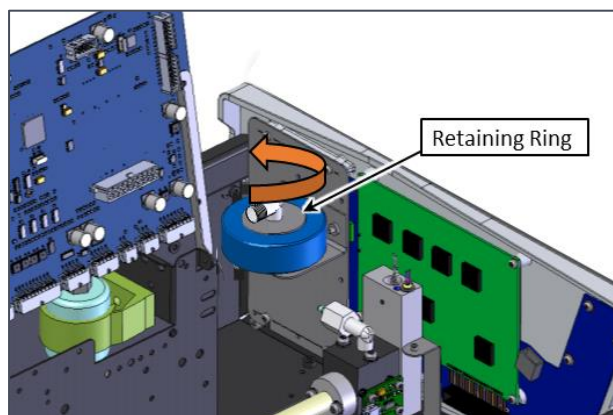

Figure 128 – Remove Retaining Ring
4. Refer to Figure 128. Remove the retaining ring by turning it counter-clockwise.